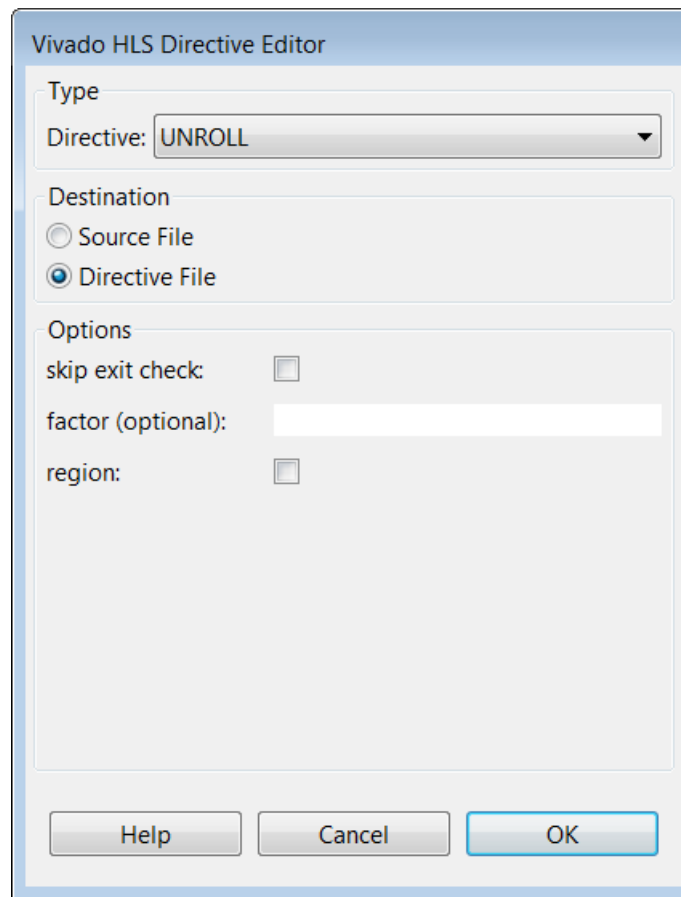

Figure 71: Directives Editor to Unroll For_Loop
- b. With the Directives Editor as shown in Figure 71, click **OK**.